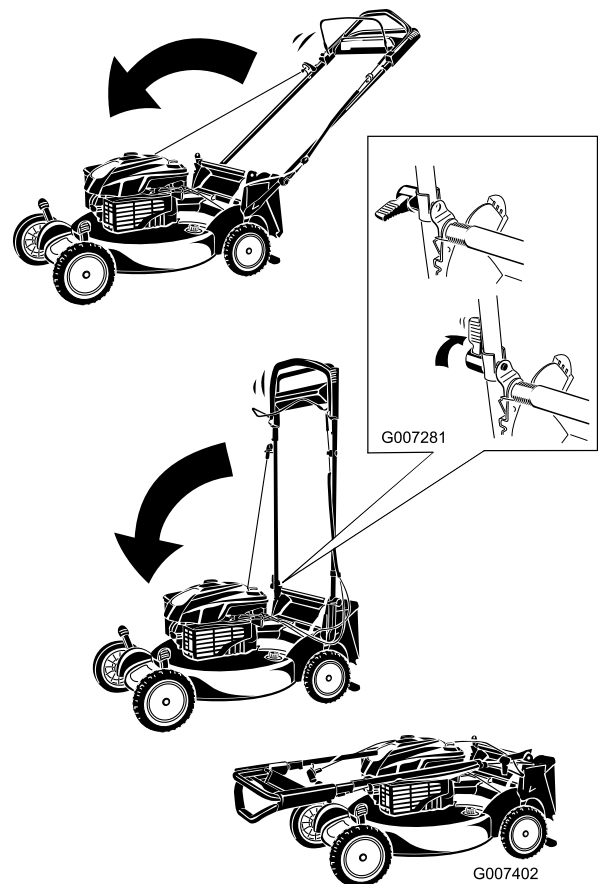

Figure 47
1. Rotate the handle forward (Figure 47).